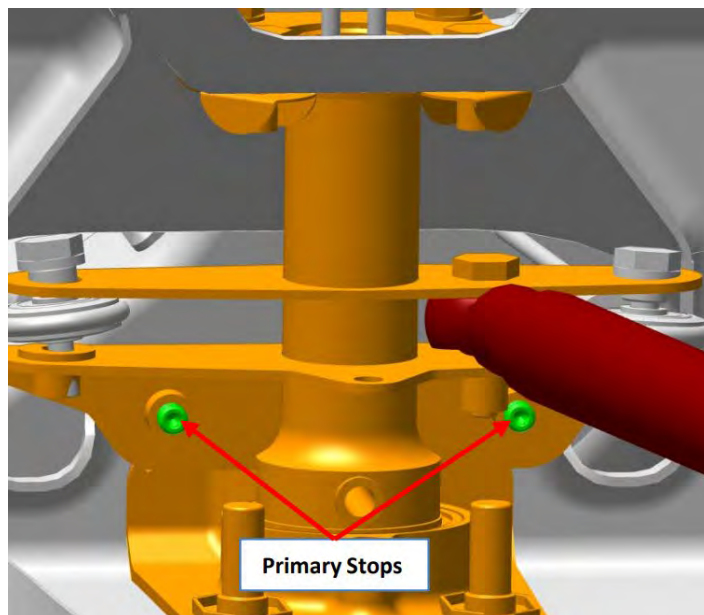

FIGURE 10-54
4. Maximum travel limits are set as specified. See Figure 10-54.